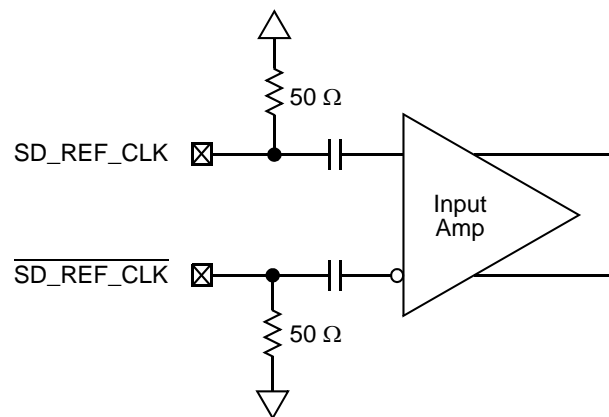

Figure 39. Receiver of SerDes Reference Clocks
- The SD_REF_CLK and $\overline{\text{SD_REF_CLK}}$ are internally AC-coupled differential inputs as shown in Figure 39. Each differential clock input (SD_REF_CLK or $\overline{\text{SD_REF_CLK}}$) has a 50- Ω termination to SGND_SRDS $_n$ (xcorevss) followed by on-chip AC-coupling.